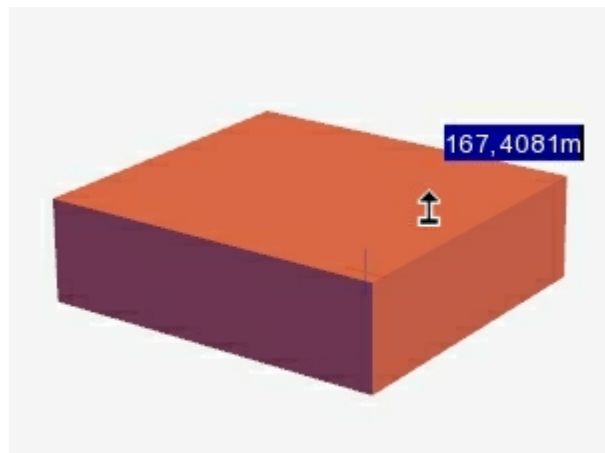

Figure 1
Figure 1 shows a **rectangle** that was extruded into a **cuboid**.
3. **Move the mouse pointer** to the **surface or edge** of the two-dimensional object. You will see the mouse pointer change its shape (Figure 1).